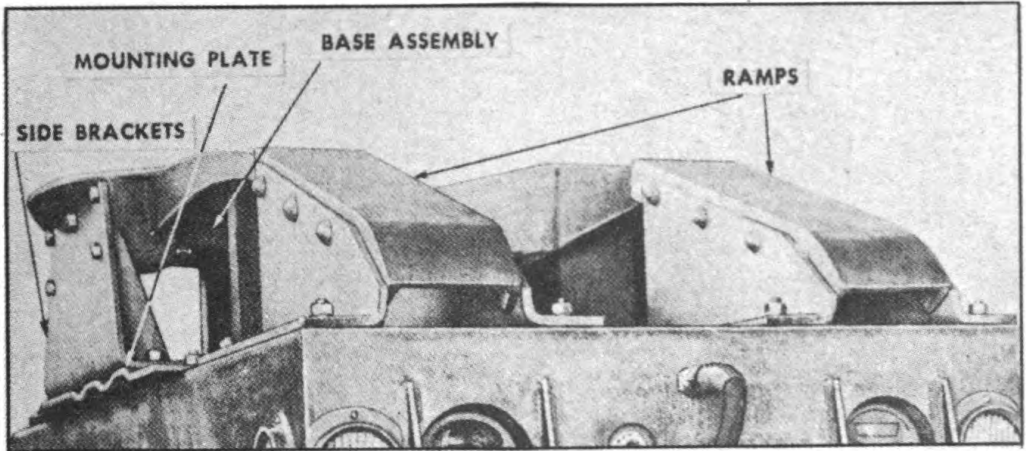

FIGURE 48. COUPLER REMOVAL
2. **REMOVAL** (Figure 48).—Remove the bolts holding base and side brackets to mounting plate. Lift the coupler assembly off converter gear.